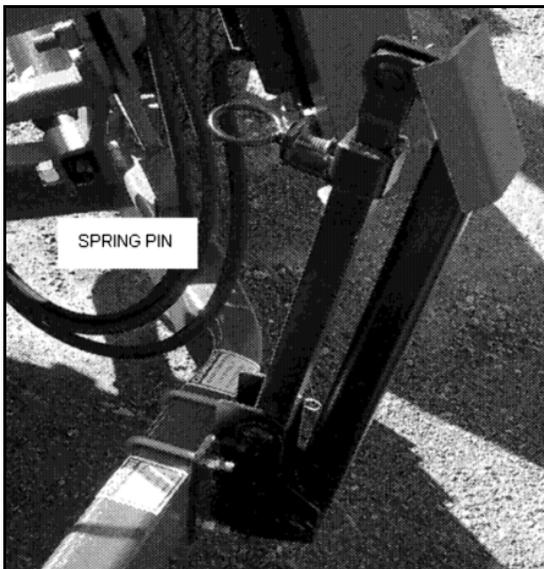

**Figure 5.2 Hugger Closed**
2. Place the post standing up straight against the roller plate cones. Ensure that your hands are clear of the hugger. Close the hugger arm to clamp post in. Some adjustment of the roller arm may be required to hold the post firmly (Figure 5.2).